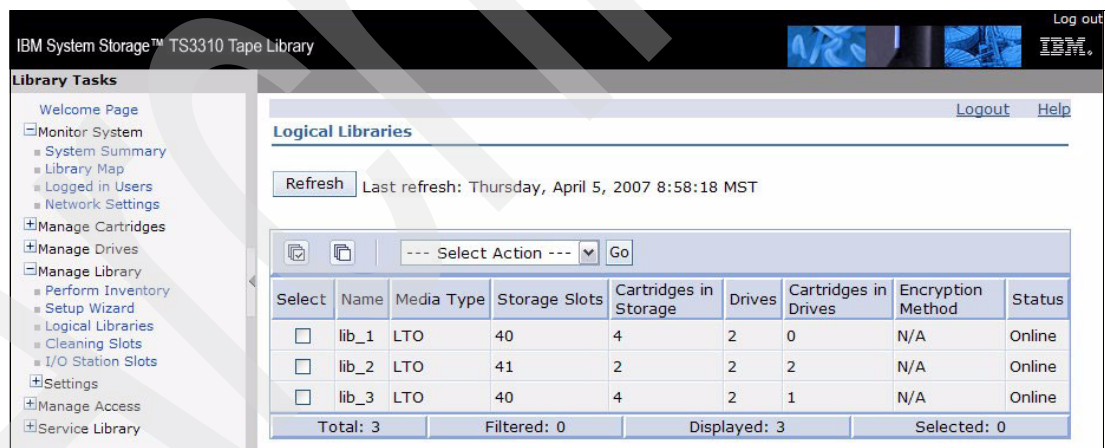

Figure 2-13 IBM TS3310 Logical Libraries.
2. Select **Manage Library** → **Logical Libraries** to display the present setting of logical libraries, as in Figure 2-13.